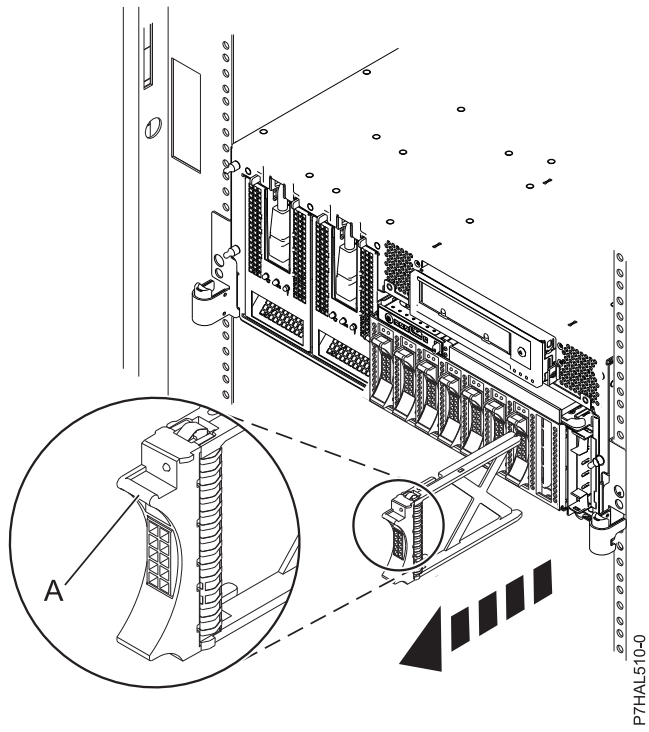
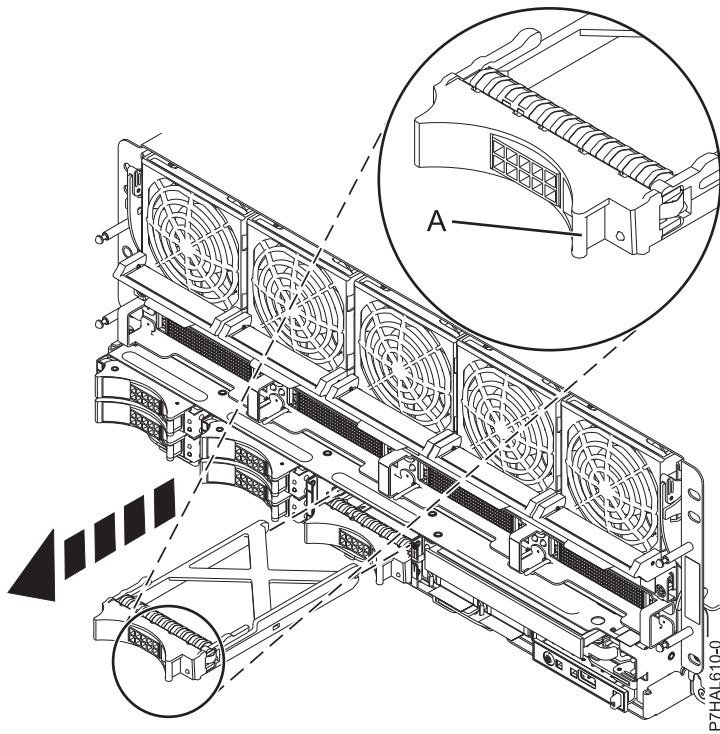

Figure 104. Removing a disk-drive filler from model 8233-E8B or 8236-E8C
Figure 105. Removing a disk-drive filler from model 9117-MMB or 9179-MHB
4. Pull the disk-drive filler from the slot. Pull the disk-drive filler from the slot that you want to use, as shown in Figure 104 on page 126 and Figure 105 on page 126.